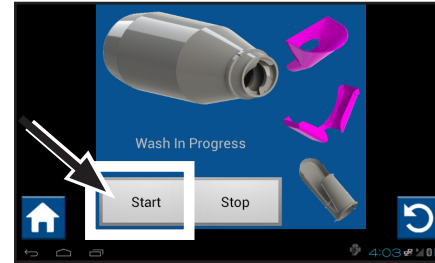

Figure 122
5. Press the Start button to begin auto wash down of the selected components. A “Wash In Progress” message will display on the screen (Figure 122.)